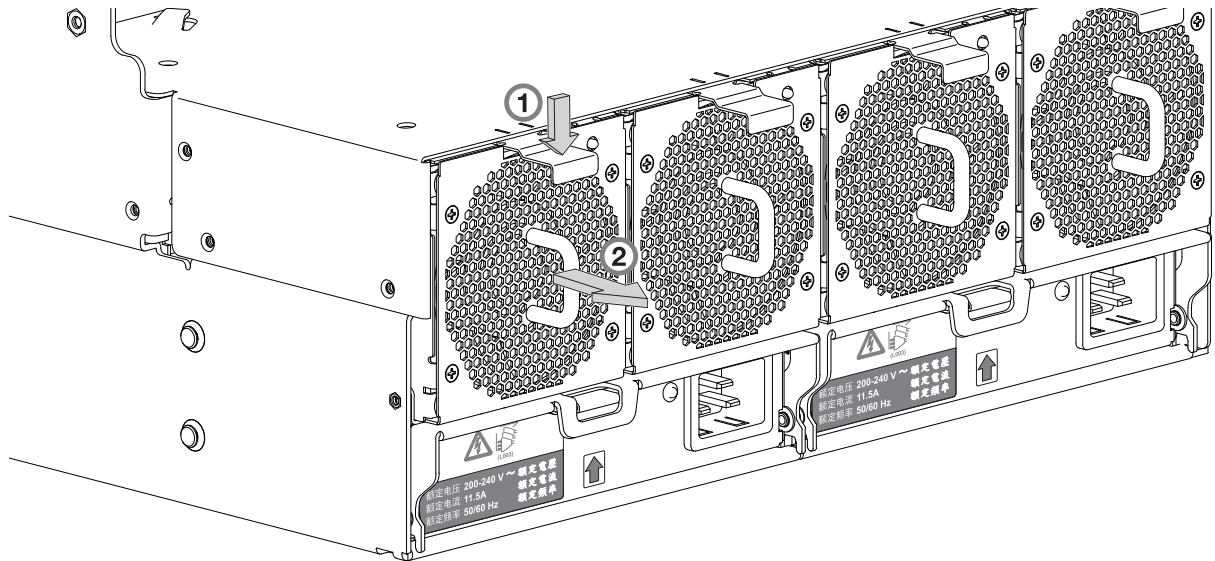
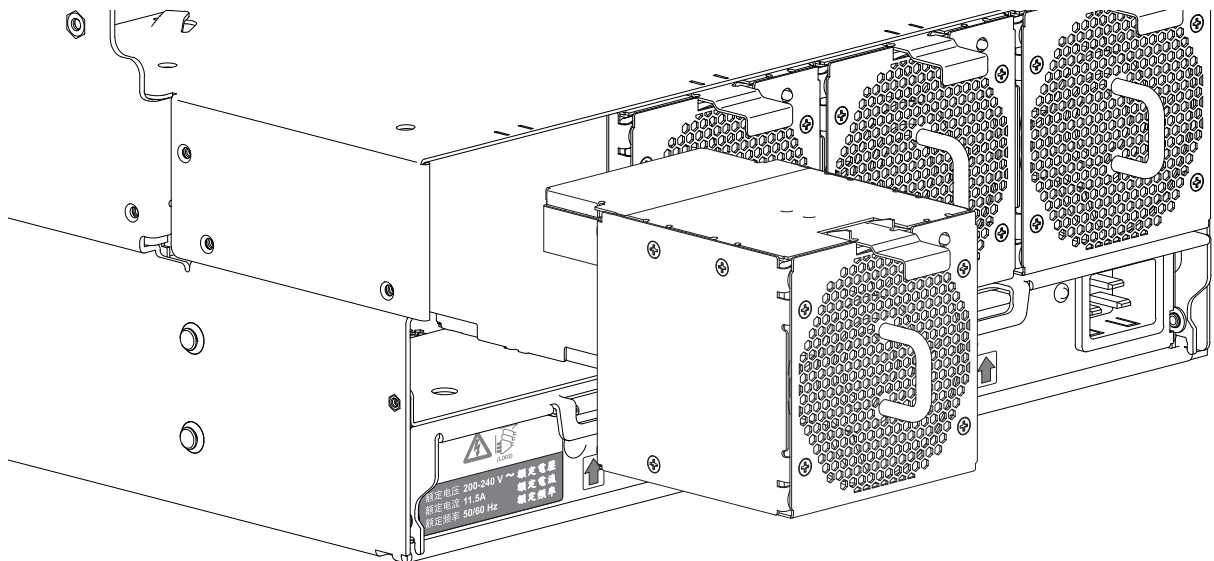

Figure 62 Removing a system fan (1 of 2)
Figure 63 Removing a system fan (2 of 2)
1. Press down on the latch tab to release the fan from its locked position. See detail No.1 in Figure 62 \(page 78\).
2. Grasp the fan module handle and carefully pull the fan out of its slot. See also the detail in Figure 63.
Refer to Figure 62 and Figure 63 when performing this procedure, but ignore the directional arrow. You will insert the module into the slot rather than remove it.
① **IMPORTANT:** Handle the system fan carefully, and avoid damaging connectors.
2. Align the system fan module for insertion into its slot, as shown in Figure 63 \(page 78\).